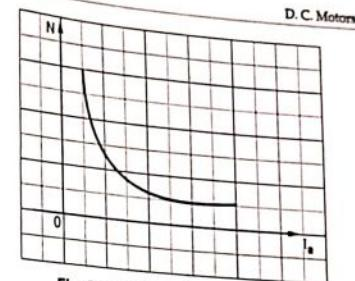

Fig. 8.9.2 N Vs T for series motor
- So speed-armature current characteristics is rectangular hyperbola type as shown in the Fig. 8.9.2.